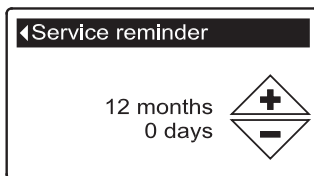

FIG. 145
7. Press the SELECT (O) button to display the Service reminder screen (See Figure 145).